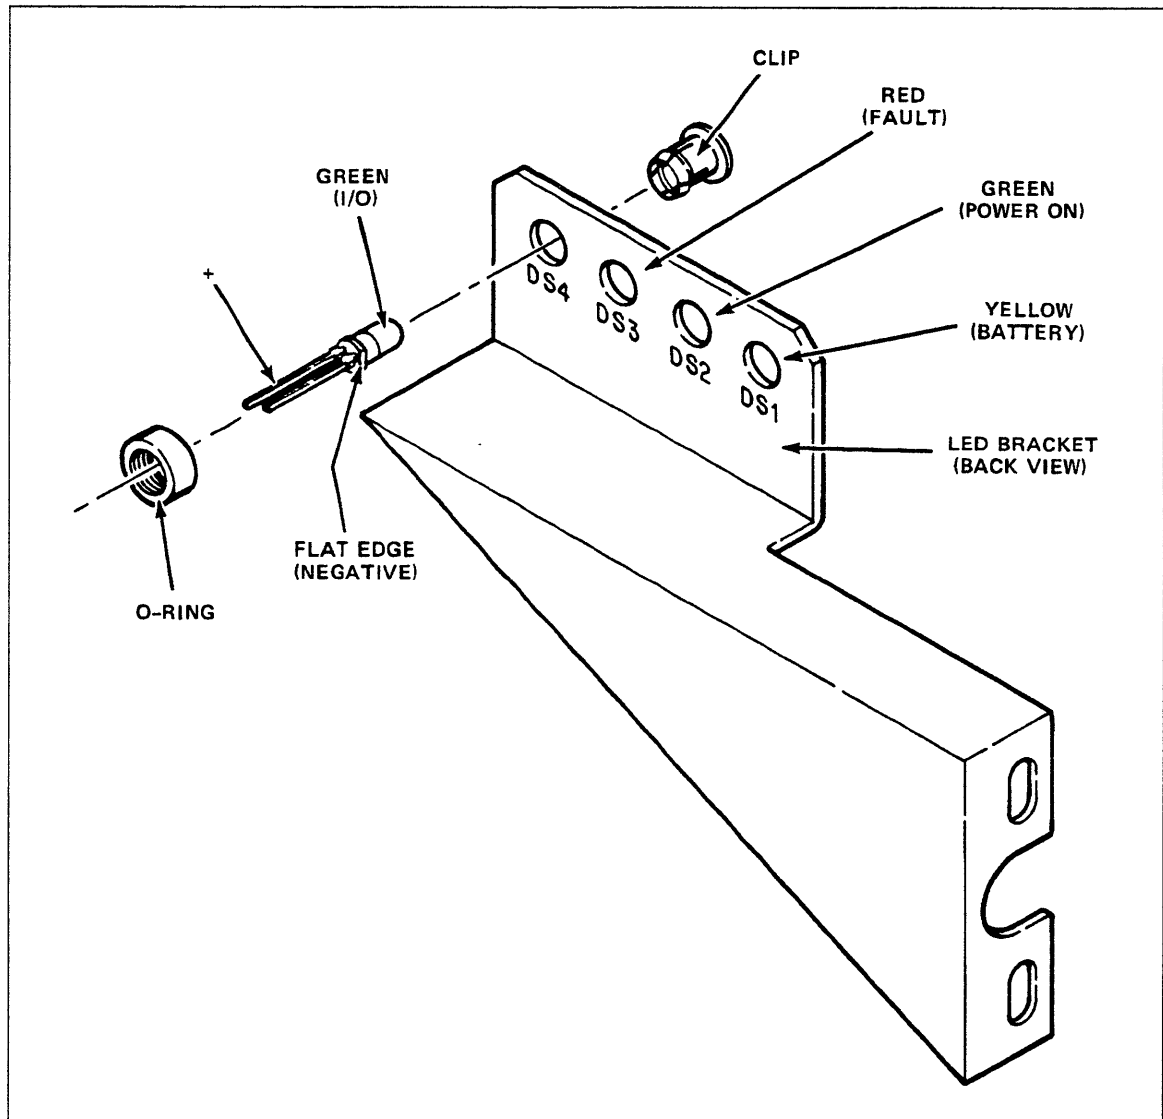

Figure 9-18. LED Bracket (Back View)
5. Remove two slip-on wires (label for easy reassembly) from back of LED (figure 9-18).
6. Using a needle-nose pliers, remove O-ring (figure 9-18) from back of LED.
7. Snap diode out by pushing from front to back. The clip (figure 9-18) remains in place.
1. Insert new LED from the back with the positive long lead in the left position (figure 9-18) and the negative lead, indicated by a flat edge on the LED, in the right position.